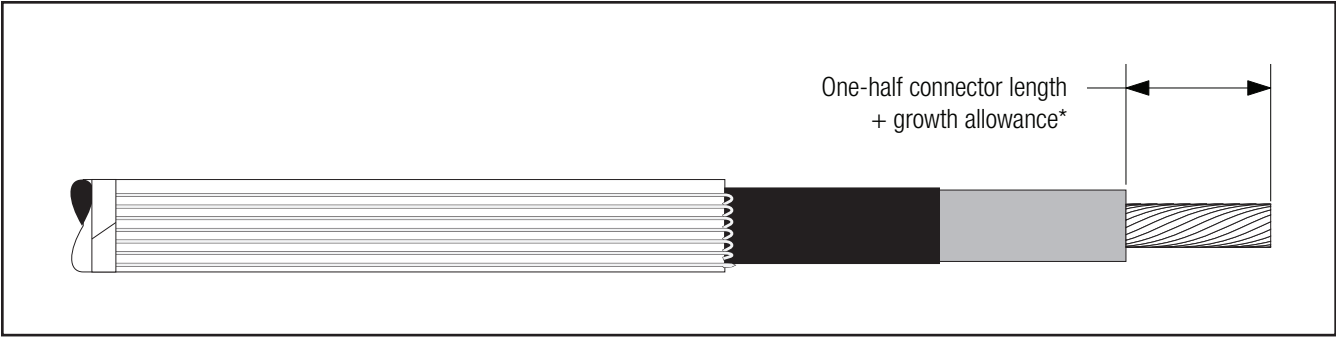

Figure 10
3.3 If using a crimp type connector, remove cable insulation for 1/2 connector length plus an allowance* for increases in connector length due to crimping. Insulation removal length shall not exceed 3 3/8" (86 mm) from conductor end. **Do not install connector now** (Figure 10).